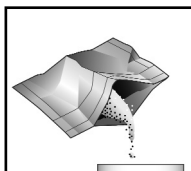

Figure 1
2. Empty the contents of one Zinc Foil Pack into the reaction tube (fig. 1). Cap the reaction tube and shake it vigorously for exactly **2 minutes**.